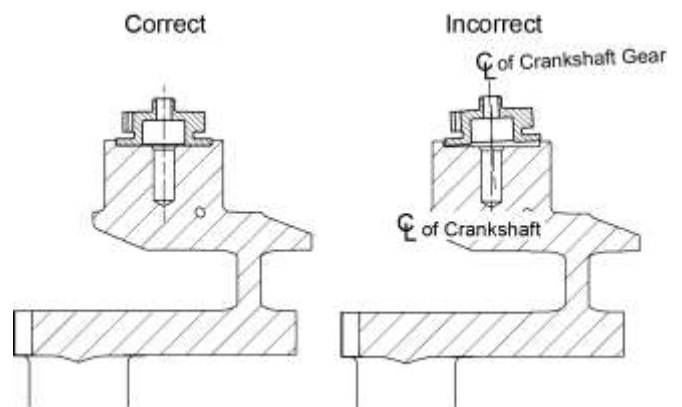

Figure 45
CAUTION FOR CORRECT ENGINE OPERATION, THE CRANKSHAFT GEAR MUST BE INSTALLED CORRECTLY WITH NO GAP BETWEEN THE MATING SURFACES OF THE COUNTERBORED-END OF THE CRANKSHAFT AND THE CRANKSHAFT GEAR PILOT FLANGE (FIGURE 45).
- (10) With a hammer and brass drift, tap lightly around the pilot flange of the crankshaft gear and listen for sharp solid sounds from the hammer blows that would indicate that the crankshaft gear is seated against the crankshaft.
- (11) Make sure the crankshaft gear seats firmly and perpendicularly flat and straight (not at a slanted angle) against the crankshaft as shown in Figure 45: